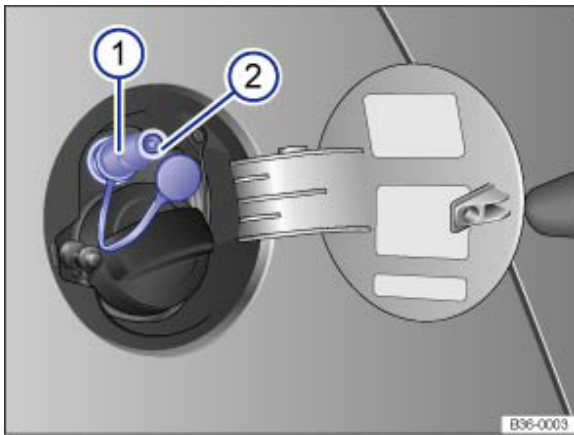

Fig. 189 With the tank flap open: gas filler neck ①, gas filler neck seal ②
- Remove the cap from the gas filler neck → Fig. 189 ① .
- Check whether sealing ring → Fig. 189 ② on the gas filler neck has slipped onto the filler coupling. Place the seal back in the gas filler neck as necessary.